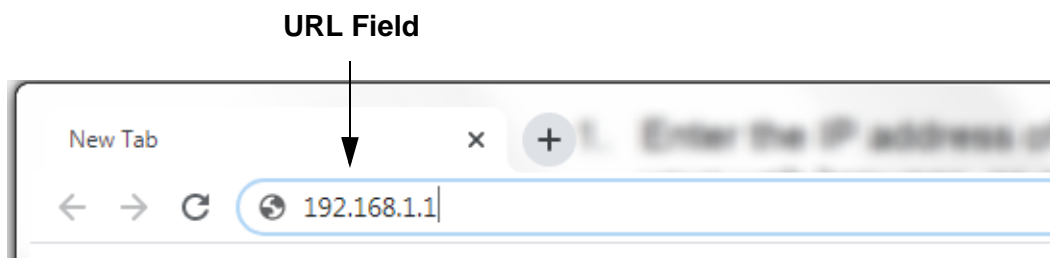

Figure 6. URL Field in a Web Browser
1. Enter the IP address of the management module in the URL field of your web browser, as shown in Figure 6 on page 37.